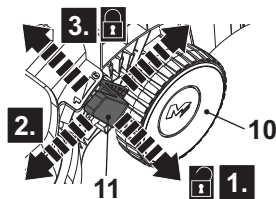

Fig. 12
1. Pull the lever (11) towards the rear wheel (10) (Fig. 12, step 1).
2. Move forward or backward to adjust the cutting height (Fig. 12, step 2).
3. Release the lever (11) and ensure it engaged in the slot properly (Fig. 12, step 3).